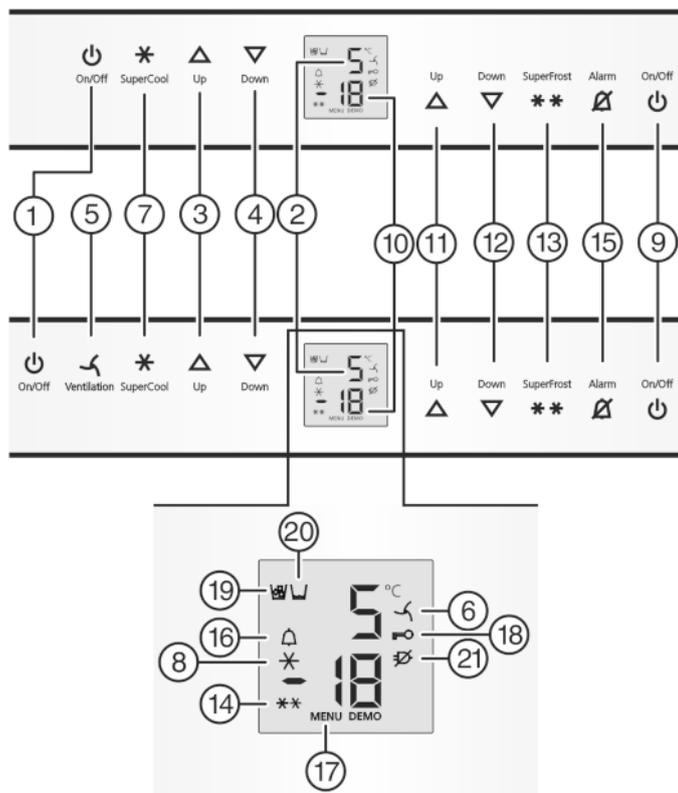

Fig. 2
- Press On/Off button, freezer compartment *Fig. 2 (9)*.
- Press On/Off button, refrigerator compartment *Fig. 2 (1)*.
- ▷ The fridge section is on: Fridge temperature display *Fig. 2 (2)* is on. When you open the door the interior light comes on.
- To activate the setting mode: press SuperFrost button *Fig. 2 (13)* for about 5 s.
- ▷ The menu symbol *Fig. 2 (17)* shines.
- Briefly press the SuperFrost button *Fig. 2 (13)* to confirm. When **c1** is indicated in the display:
- To activate the child lock, briefly press the SuperFrost button *Fig. 2 (13)*.
- ▷ The child lock symbol *Fig. 2 (18)* shines. **c** flashes in the display. When **c0** is indicated in the display:
- ▶ to deactivate the child lock, briefly press the SuperFrost button *Fig. 2 (13)*.
- ▷ The child lock symbol *Fig. 2 (18)* goes out. **c** flashes in the display.
- ▶ To deactivate the set-up mode: press On/Off button, freezer compartment *Fig. 2 (9)*.
- ▶ Press alarm button *Fig. 2 (15)*.
The temperature display and the alarm symbol *Fig. 2 (16)* flash at the same time.
The audible alarm is automatically silenced, the alarm symbol *Fig. 2 (16)* goes out and the temperature display stops flashing when the temperature is sufficiently cold again.